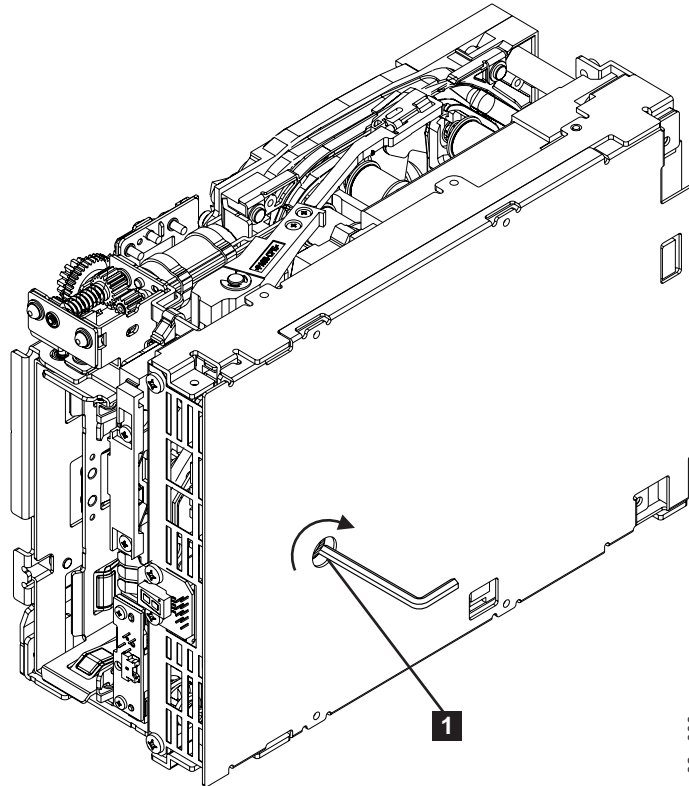

Figure 8-87. Using hex wrench to rewind tape into cartridge
6. From the bottom of the drive, locate the access hole (1 in Figure 8-87) in the bottom cover. Insert a 2.5 mm offset hex wrench through the bottom cover access hole and into the reel motor axle. begin spooling tape back into the cartridge by turning the hex wrench clockwise.